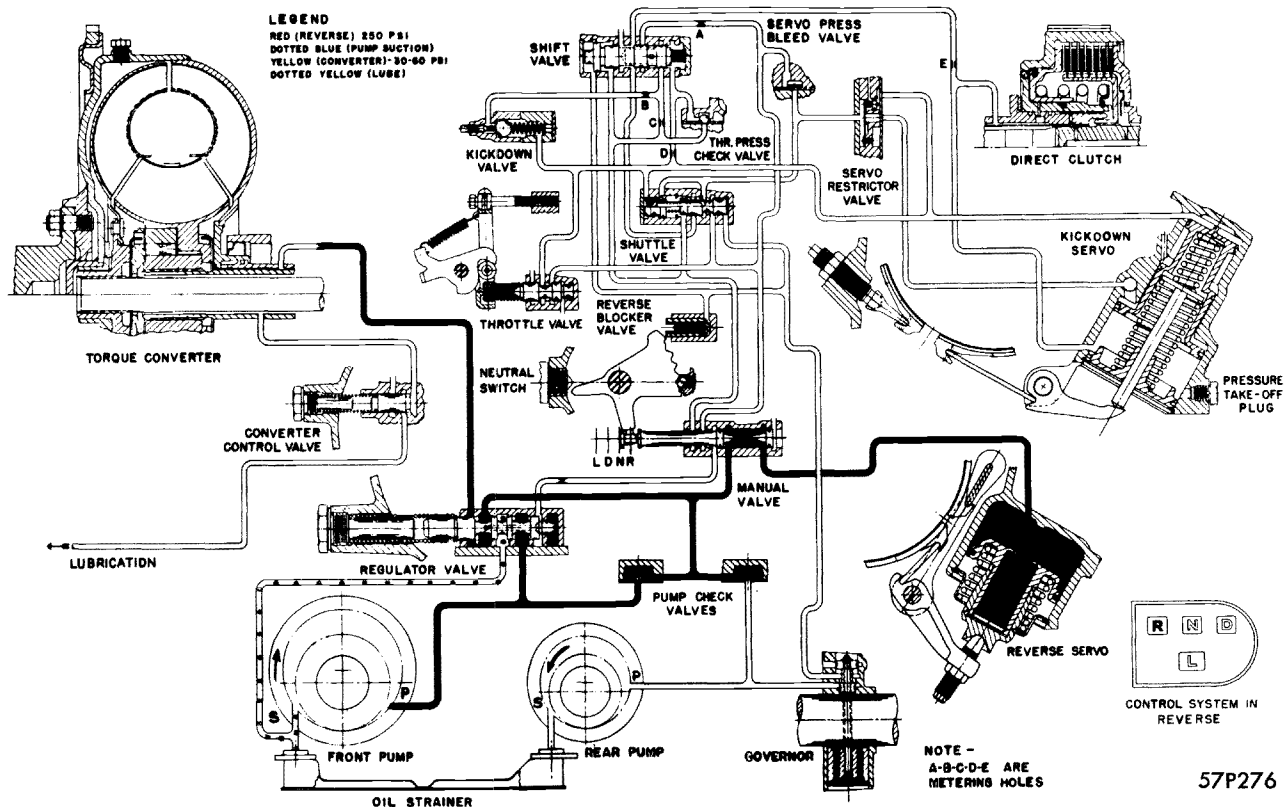

Figure 48—PowerFlite Oil Flow Diagram (Reverse)
REVERSE—When the panel control is placed in Reverse (R), the manual valve is positioned so that oil pressure normally directed to the secondary reaction area of the regulator is blocked off. Thus oil pressure normally directed to the secondary reaction area of the regulator is blocked off. Thus oil pressure from the front pump is directed through the manual valve to the primary reaction area of the regulator valve. Line pressure builds up to 250 p.s.i. and when this pressure is reached, excess oil bypasses the regulator valve to the suction side of the front pump, as shown in Figure 48.